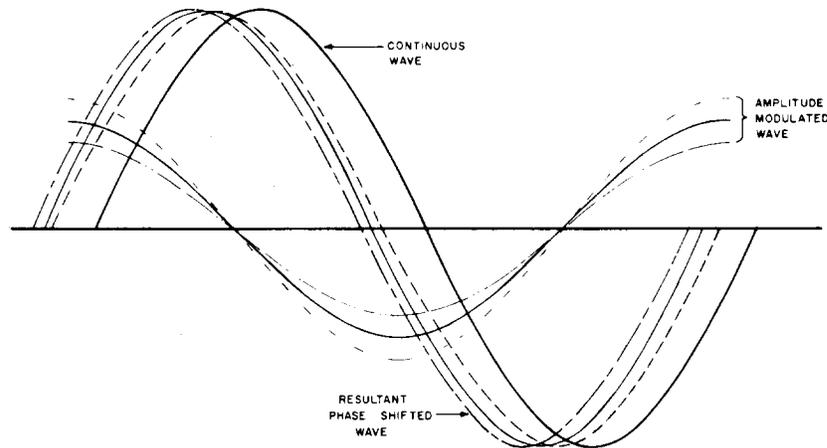

FIGURE 2
When a continuous wave is mixed with a phase shifted, partially amplitude modulated wave of the same frequency, an essentially constant amplitude wave is produced having a phase variation proportional to the modulation amplitude, i.e., phase modulation. See figure 2. Since a change of phase is equivalent to a change of frequency, a similarity exists to frequency modulation. However, as the rate of change of phase is dependent on modulation frequency, the degree of frequency modulation varies and provides the inherent pre-emphasis referred to in paragraph (A) "Audio Amplifier and I.D.C. Circuit", when the transmitter is used in conjunction with an FM receiver.
The inherent modulator transistor phase shift together with the phase shift produced by the inductive load provide the correct relationship for mixing the amplitude modulated output at the modulator collector with the direct drive from the oscillator via C106 to produce phase modulation as illustrated in figure 2. Generally, phase modulators are capable of modulating with low distortion over a small phase angle. This deviation is increased to the desired value by the frequency multiplier stages following the modulator.